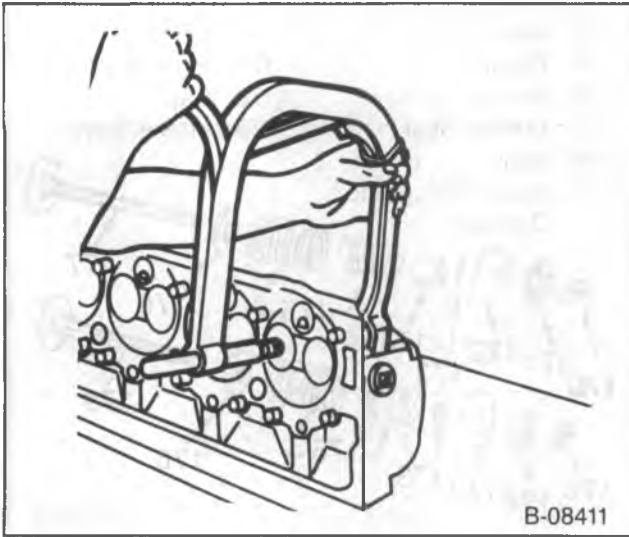

Figure 21—Compressing the Valve Springs
1. Valve keepers (170).
- Compress the valve springs with J 8062 (figure 21).
- Shims (176).
- Valve seals (174) (exhaust valves only). Install the valve seals over the valve stems and seat them against the heads.
- New valve springs with dampers (175).
- Shields (172).
- Caps (178) (intake valves only).
- Rotators (171) (exhaust valves only).
- O-ring seals (173) and valve keepers (170).
- Compress the valve spring, using J 8062 (figure 21). Compress the spring enough so the lower valve stem groove can be clearly seen.